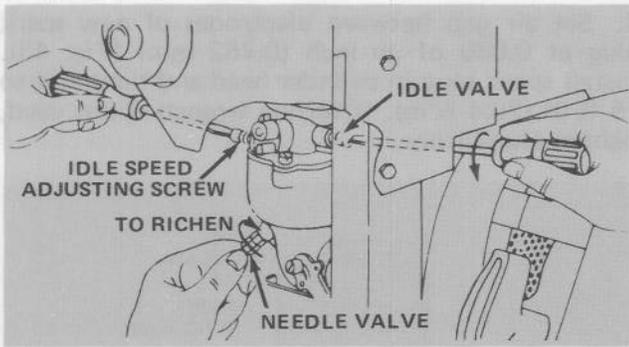

Figure 44
1. Needle Valve (Fig. 44) — Close needle valve finger-tight by gently rotating it clockwise.
2. Rotate — open — needle valve (Fig. 44) 1-1/2 turns counterclockwise.
3. Idle Valve (Fig. 44) — Close idle valve finger-tight by gently rotating it clockwise.
4. Rotate — open — idle valve (Fig. 44) 1/4 to 3/4 of a turn counterclockwise.
6. Rotate needle valve (Fig. 44) clockwise – in – until engine misses because of a lean gasoline mixture. Then rotate needle valve counterclockwise – out – so engine runs unevenly because of a rich gasoline mixture. Next, rotate needle valve clockwise, back to the midpoint between the rich and lean setting so engine runs smoothly.
7. Move throttle control backward to idle speed. Rotate idle speed adjusting screw (Fig. 44) until engine idles fast – 1750 rpm.
8. Rotate idle valve (Fig. 44) clockwise – in – until engine begins to miss because of a lean mixture. Then rotate idle valve counterclockwise – out – until engine runs unevenly because of rich
9. Again, rotate idle speed adjusting screw (Fig. 44) until engine idles at 1750 rpm.